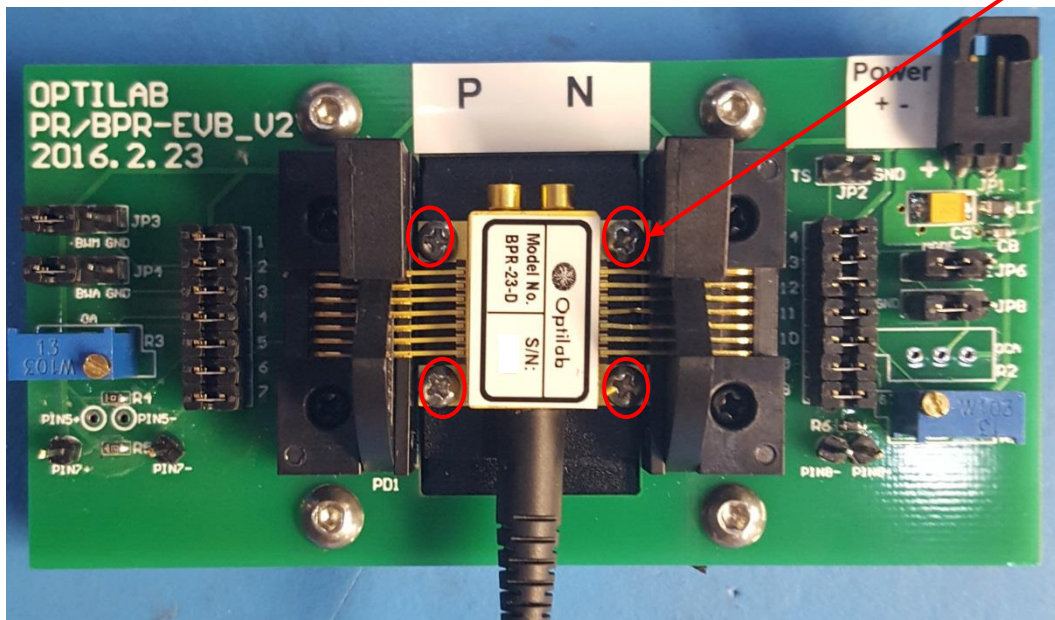

Figure 2. BPR mounting procedure
- i) Place the BPR onto the evaluation board as show in Fig. 2. Pay attention to its orientation. The label P and N denotes the positive and negative RF output ports.
- iv) Once secured clamp pins down in pin chuck, as shown in Fig. 2.